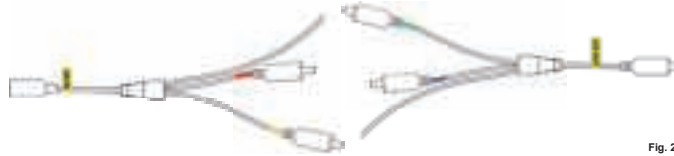

Fig. 2
- Make sure that the sensor lead is positioned correctly behind the stairs. The cable has three plugs at each end; the connector labelled "AD IN" (see fig. 2) is connected to the power supply, the connector labelled "LED OUT" is connected to the main line/cable (with T-connectors). Depending on where the power supply is located (at the bottom or top of the stairs), the sensor lead must be laid in direction so that the connections correspond to the labels.